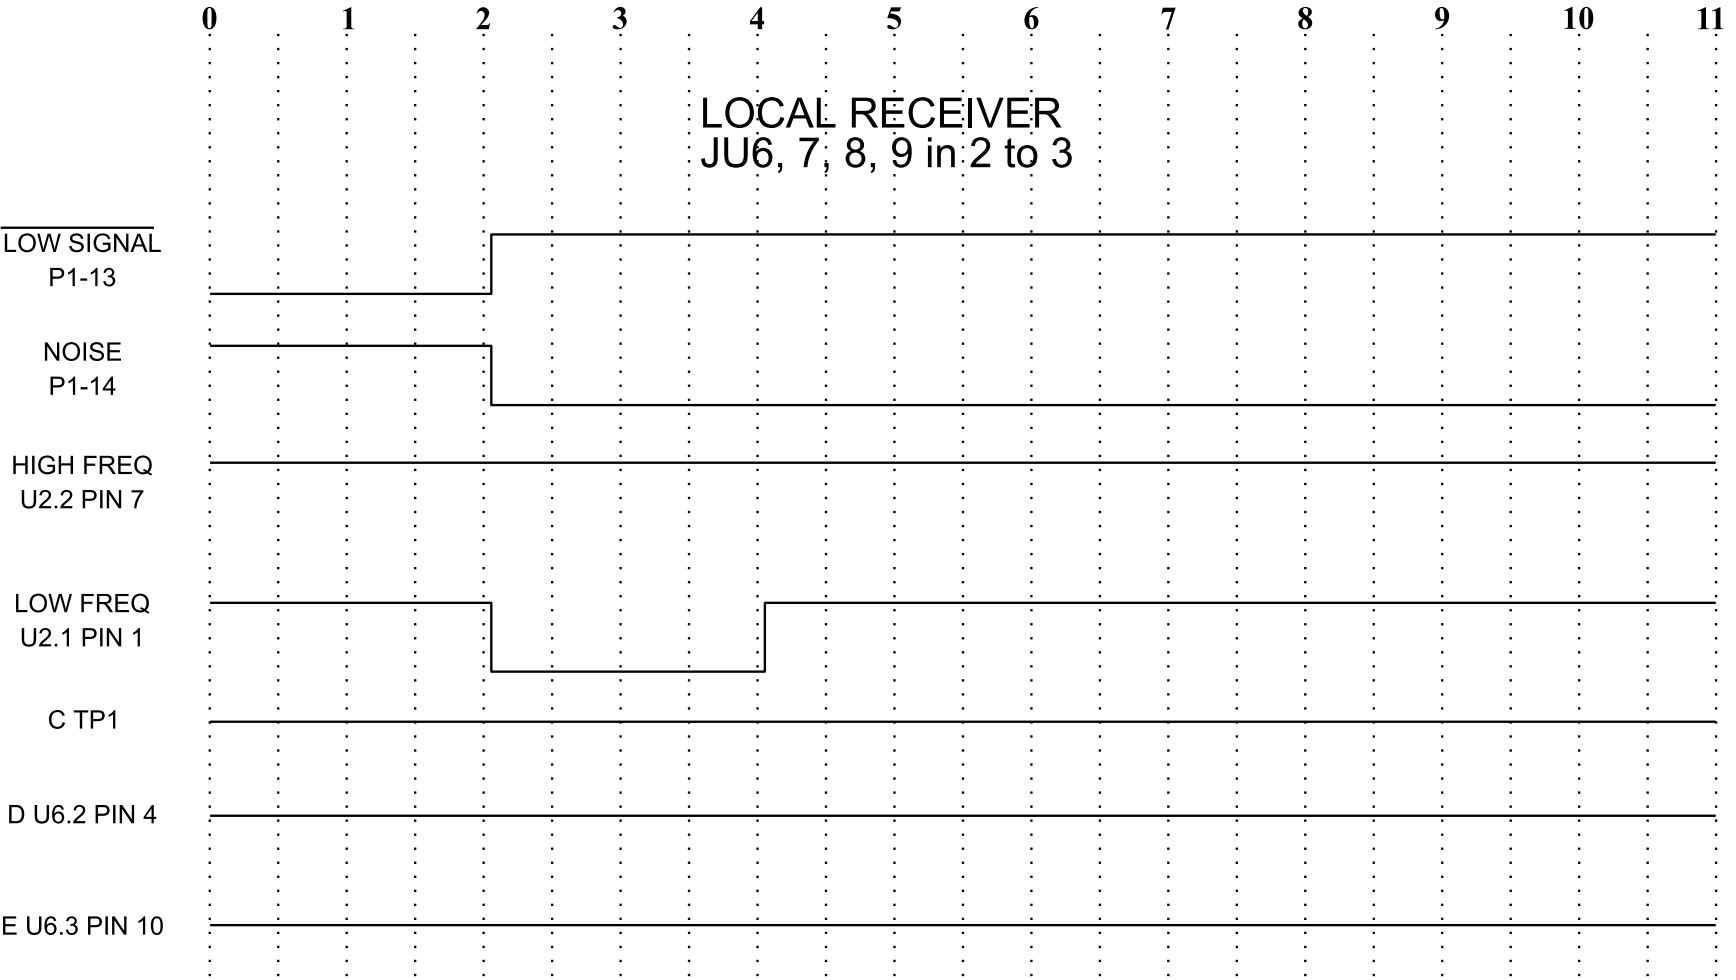

Figure 19-12. TCF-10B Trip Test Unit Timing Diagram (Sheet 5 of 5).
2. Unkeys GUARD for two (2) seconds (U9.2 pin 10).
The local substation (LS) receiver responds to the action of the remote substation (RS) transmitter. This is shown on the timing diagram “LOCAL RECEIVER” (Figure 19-12) when jumpers JU6, JU7, JU8, and JU9 are in the 1-2 positions. The GUARD signal is turned off in the remote transmitter, and there is an output from U6.2 or U6.3.
When jumpers JU6, JU7, JU8, and JU9 are in the 2-3 positions, the GUARD signal is not turned off in the remote (refer to Figure 19-12). The only signal received is TRIP (U2.1 – pin 1). There is no output from U6.2 or U6.3.